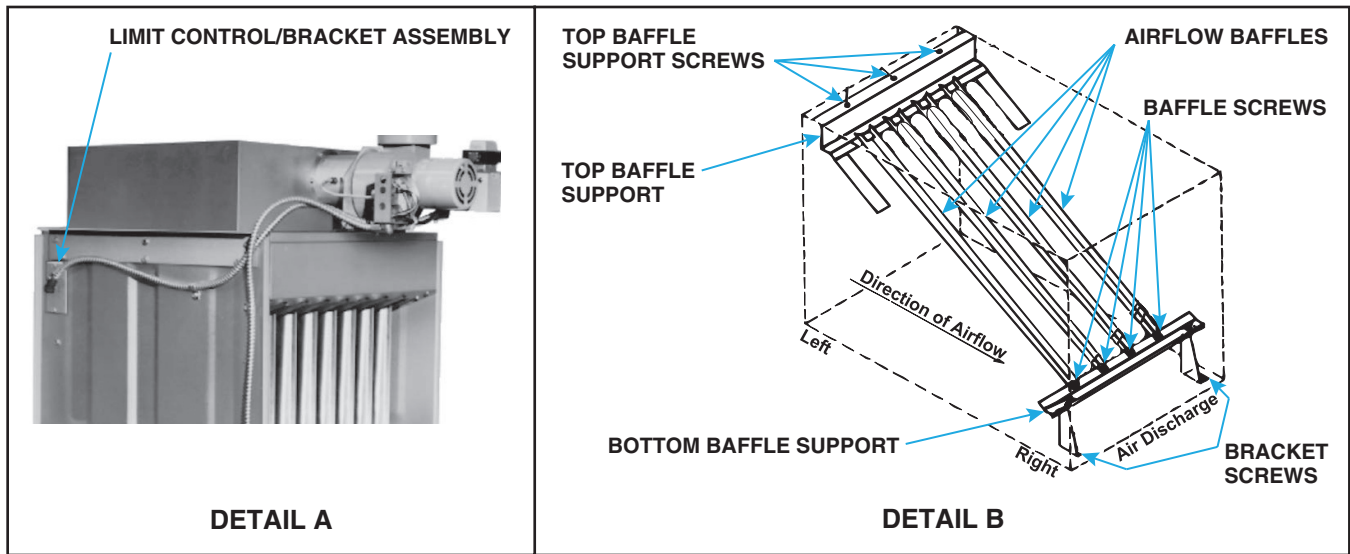

Figure 6. Limit Control and Airflow Baffles
1. Remove limit control (see Figure 6, DETAIL A):
2. Reverse direction of airflow baffles (see Figure 6, DETAIL B):